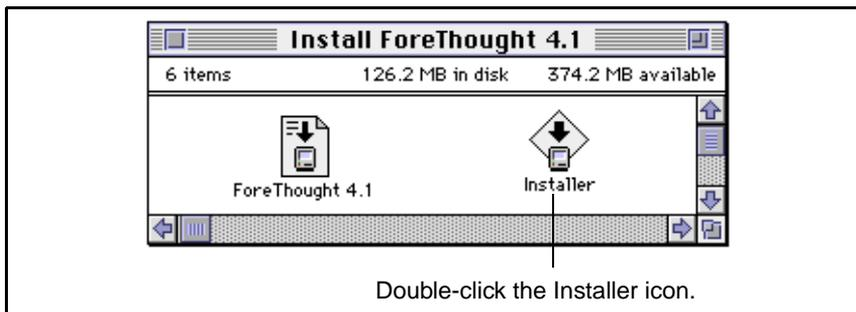

Figure 3.1 - ForeThought 4.1 Installation Window
1. Insert the *ForeThought* software CD into the system's CD-ROM drive. The Install ForeThought window opens on your desktop (Figure 3.1.)